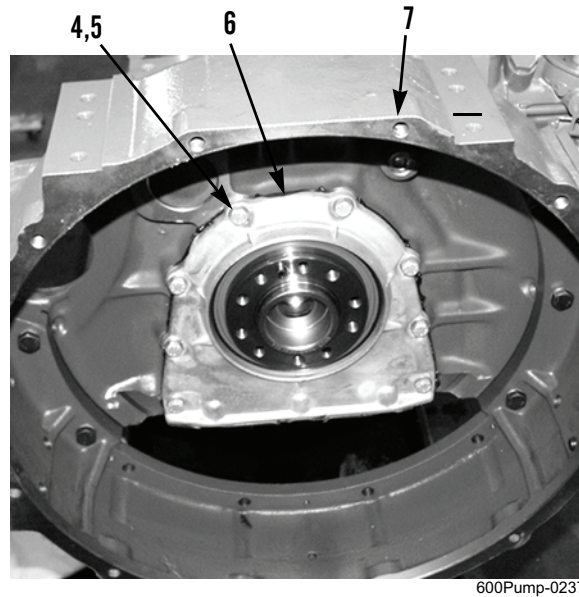

Figure 2. Removing Rear Cover.
4. Remove eight bolts (Figure 2, Item 4), washers (Figure 2, Item 5), and rear cover (Figure 2, Item 6) from engine block (Figure 2, Item 7).